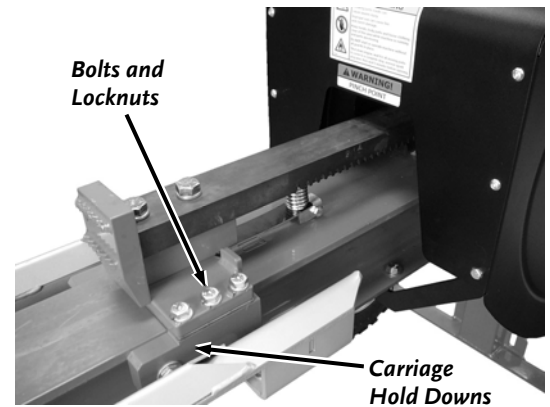

Figure 23
2. Pull the Carriage out approximately half way and remove the three Bolts and Lock Washers on each side of the Carriage and Rack assembly as you support and remove the Carriage Hold Downs (**Figure 23**). Note the position of the Roller Bearings.